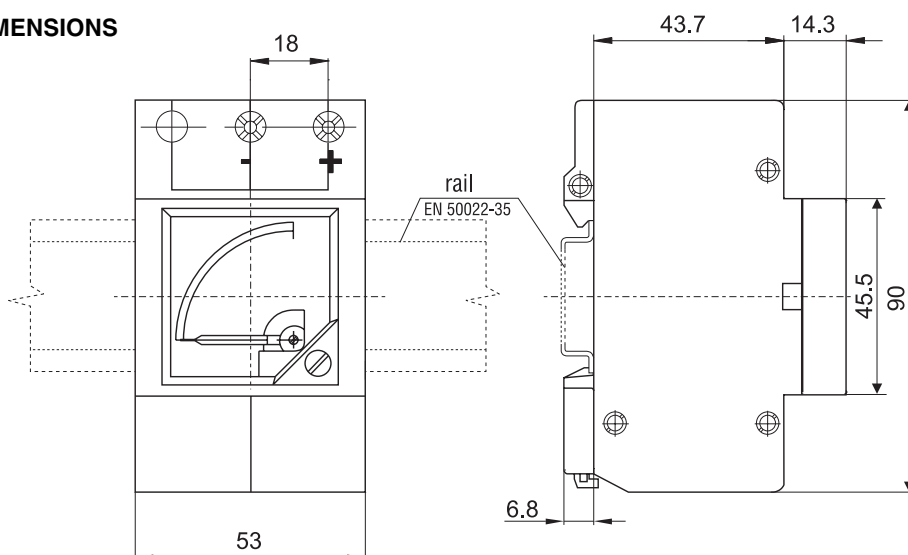

Fig.1. External dimensions of EB16 meters.
*) It concerns EA16 meters, for the frontal frame dimensions of EB16 meters, see Fig.1.